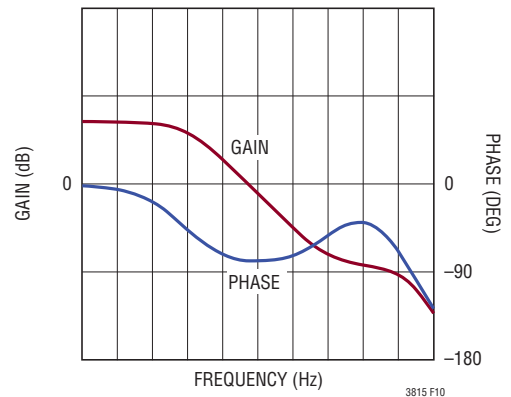

Figure 10. Transfer Function of Buck Modulator
be modeled as an ideal op amp (for crossover frequencies $< 200\text{kHz}$) and the inductor as a voltage controlled current source. The gain/phase plot should look similar to Figure 10.
2. If a longer soft-start period is desired, it can be set externally with a capacitor on the TRACK/SS pin as shown in Figure 10. The TRACK/SS pin reduces the value of the internal reference at FB until TRACK/SS charges above the REF pin voltage. The external soft-start duration can be calculated by using the following formula: